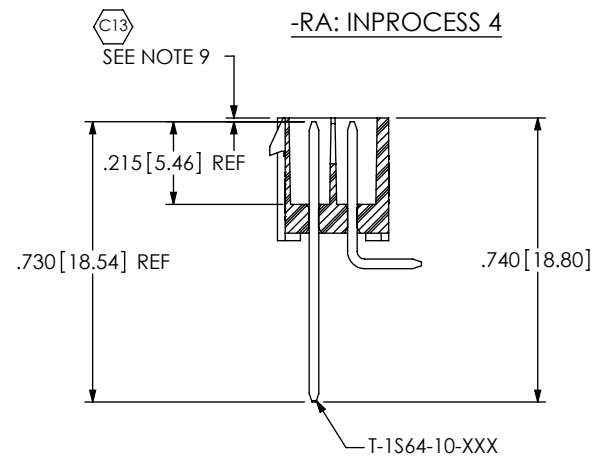

FIG 4
- (LEAVE BLANK FOR NO POLARIZATION (SEE FIG. 4, SHEET 3), SAMTEC WILL ONLY SUPPORT EXISTING BUSINESS AS OF REV. U)
(DIFFERENT AS SHOWN, OTHERWISE SAME AS FIG. 4)